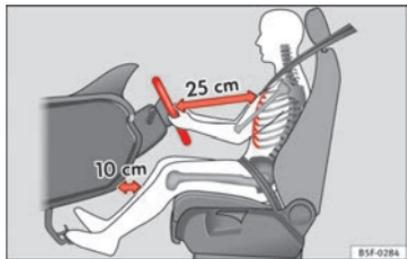

Fig. 133 Proper sitting position for driver
- Adjust the steering wheel until the correct position is set ⇒ Fig. 133.
- Adjust the driver seat or steering wheel so that there is a distance of at least 25 cm between the steering wheel and your chest ⇒ Fig. 133. If you fail to observe the minimum distance, the airbag will not protect you. Risk of fatal injury.